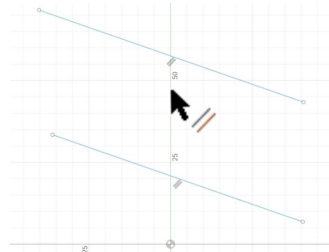

Figure 1.3
- **Parallel:** Constrains two lines so that they extend in the same direction and never intersect. (see Figure 1.3)